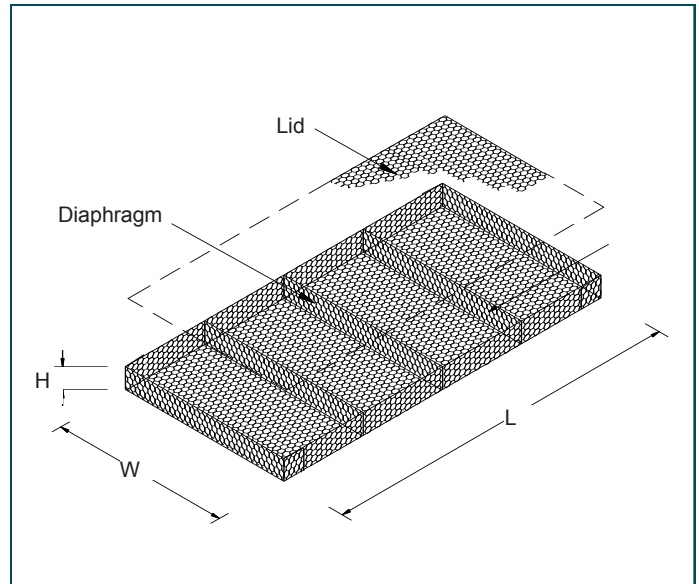

Figure 1
The Reno mattress is a structure made of 6x8 hexagonal double twisted hexagonal woven steel wire mesh type as per ASTM A975 (Fig. 1 and 2). Reno mattresses are filled with stones at the project site to form flexible and permeable, monolithic structures such as river bank protection and channel linings for erosion control.
- size of units (length x width x height, see Fig.1),